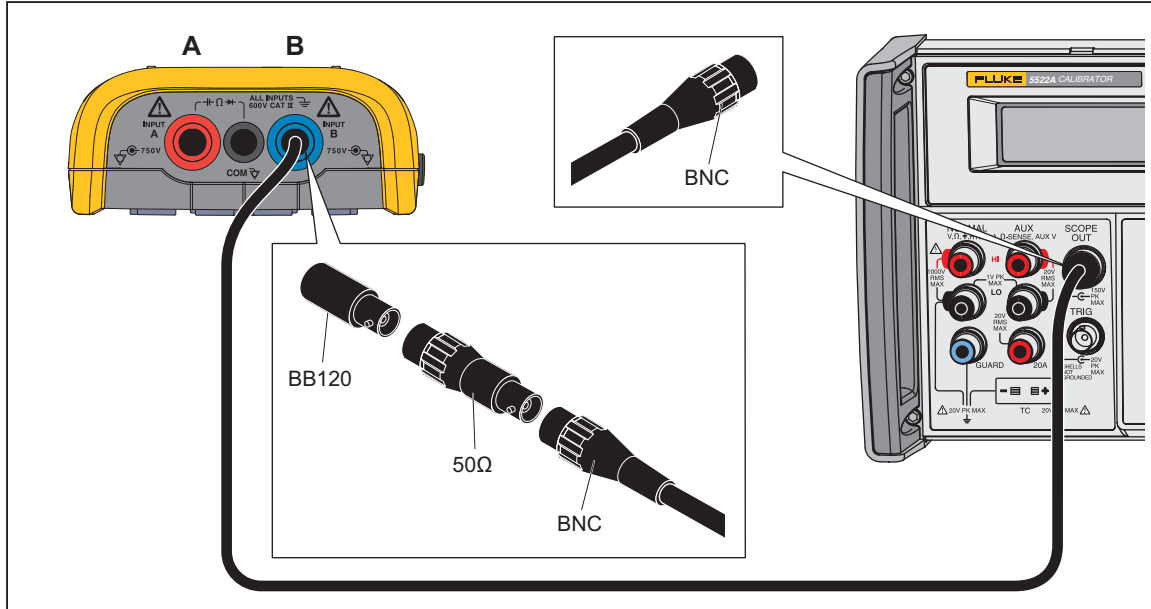

Figure 4. Test Tool Input B to Calibrator Scope Output 50 Ω
1. Connect the Test Tool to the Calibrator. See Figure 4.